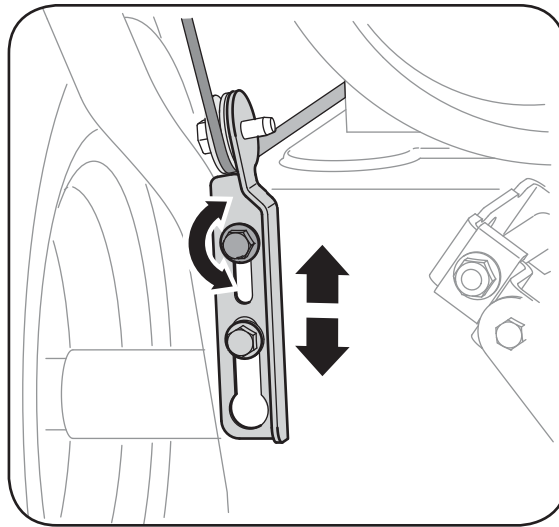

Figure 4-2
7. To readjust the control cable, loosen the upper hex nut on the auger cable bracket. See Figure 4-2.